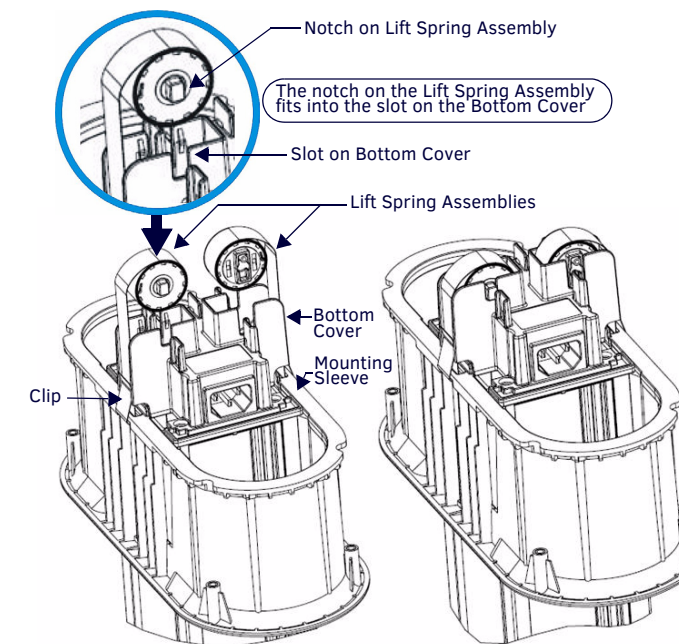

FIG. 6 INSERTING THE LIFT SPRING ASSEMBLY INTO THE BOTTOM COVER
- Take hold of the body of one lift spring assembly and pull it firmly up so that it can be snapped into the provided slot in the bottom cover (FIG. 6).